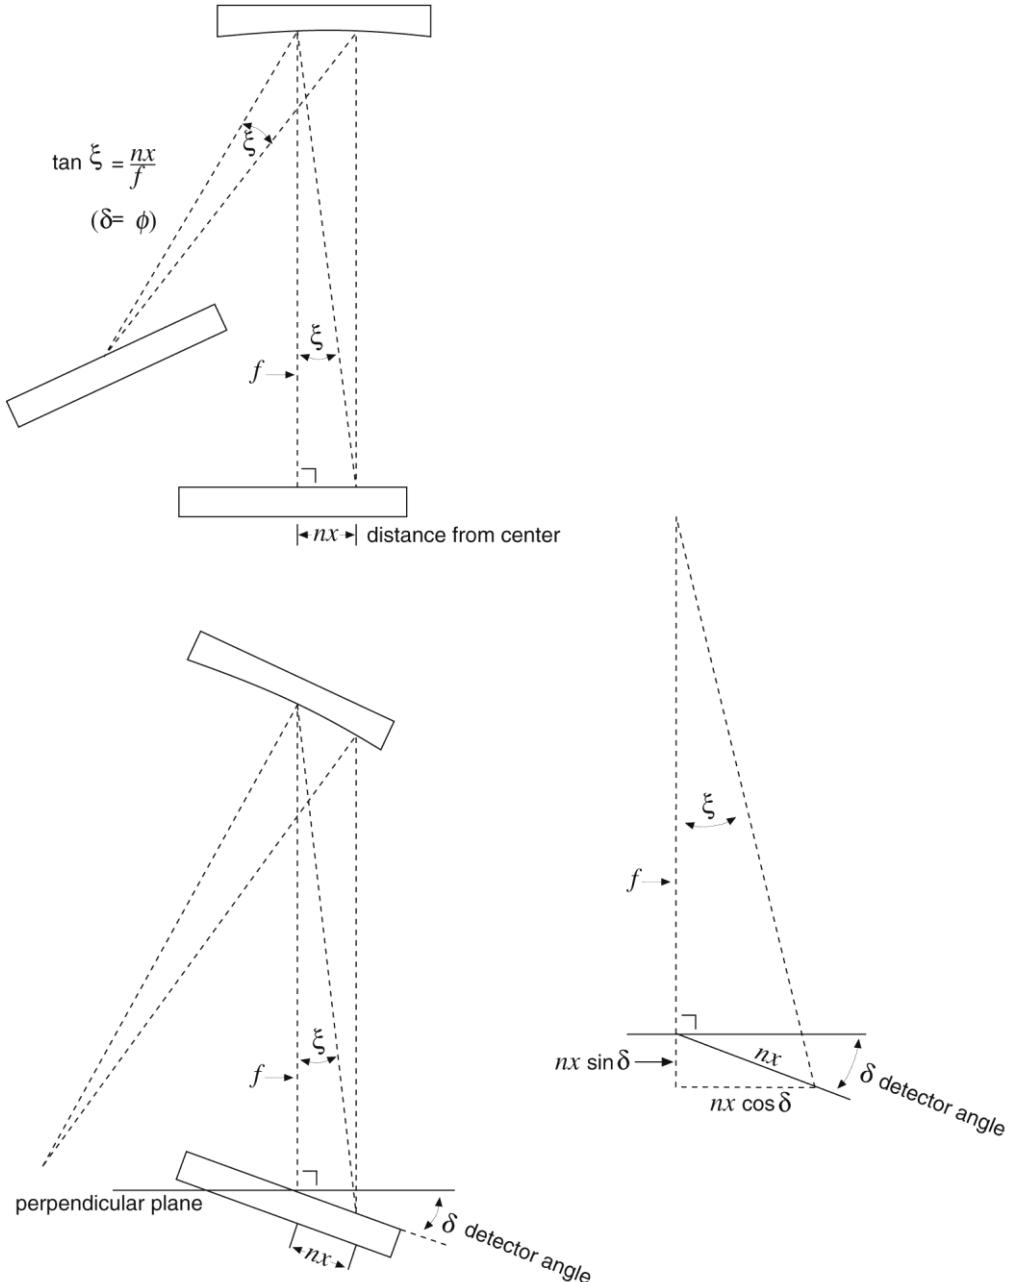

Figure 204. Relationship between ξ and the focal length, detector angle, and the distance of λ' from image plane
Note that the wavelength at the **center** of the exit plane does not depend on the focal length, f . However, the wavelength at points off center depends on both the focal length and the detector angle, δ (the angle of the image plane relative to the plane perpendicular to the spectrograph focal axis at the center of the image plane; see Figure 204). For some wavelength λ' relatively close to λ (at the same grating angle),
$$\tan \xi = (\mathbf{n}x \cos \delta) / (f + \mathbf{n}x \sin \delta), \text{ as shown in Figure 204.} \quad (4)$$